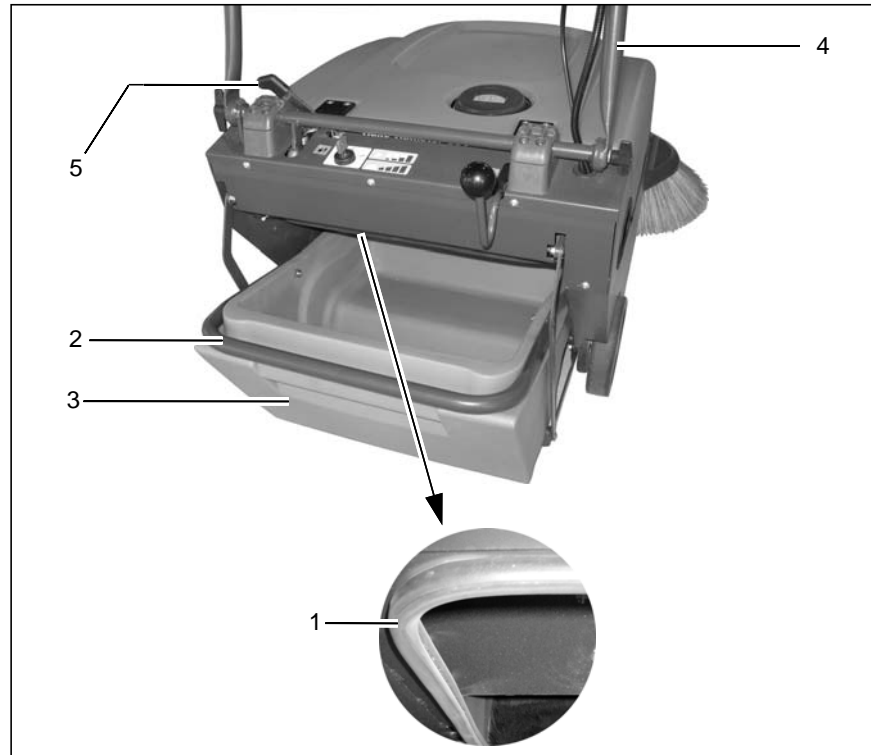
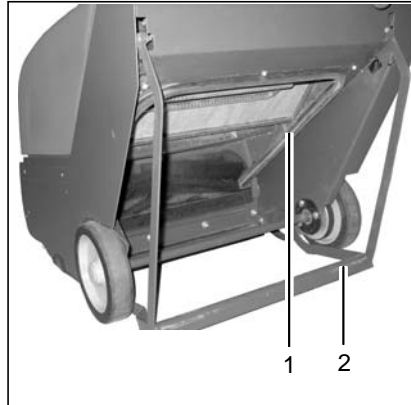

Fig. 24
Fig. 25
1. Switch the machine off and move the lever (Fig. 24/5) for locking the dirt hopper to the right (looking in drive direction) and, at the same time, pivot the handlebar (Fig. 24/4) forwards. The frame (Fig. 25/2) of the dirt hopper is lowered.
The engine must be at a standstill before the dirt hopper (Fig. 24/3) is removed. Risk of injury through swirling waste and dust!
2. Hold the dirt hopper (Fig. 24/3) by the handle (Fig. 24/2) and pull it to the rear and out of the machine
Check the fill level of the dirt hopper (Fig. 24/3) regularly and empty it regularly and as necessary.
1. Insert the dirt hopper (Fig. 24/3) back in the machine from the rear until they perceptibly engage in the frame (Fig. 25/2).
2. Pivot the handlebar (Fig. 24/4) towards the rear until the lever (Fig. 24/5) for locking the dirt hopper audibly engages.
Check the dirt hopper seals (Fig. 25/1) for wear on a weekly basis and change the seals as necessary.
2. Pull the seals (Fig. 25/1) from the edges.
3. Press new seals (Fig. 25/1) on the edges.
Clean the panel air filter (Fig. 24/5) in the dust vacuum regularly and as necessary using the shaking device:
1. When the engine is switched off, pull/push the lever (Fig. 24/9) of the shaking device quickly, several times.
1. Unlock the hood (Fig. 24/7) using a square wrench and open the hood (Fig. 24/7).
Ensure the engine has stopped before opening the hood (Fig. 24/7). Risk of injury through belt drive and rotating fan (Fig. 24/3)!
2. Release the top filter cover locks: Unscrew the knurled screws (Fig. 24/1) from the threaded pins (Fig. 24/4).
3. Release the bottom filter cover locks: Pivot the hinged locks (Fig. 24/6) outwards.
4. Remove the filter cover (Fig. 24/8).
5. Remove the panel air filter (Fig. 24/5).
1. Drop the panel air filter (Fig. 24/5) a few times from a small height onto a level, solid surface. Be careful not to damage the filter ribs!
The ground must not have any surface irregularities. Do not drop the panel air filter (Fig. 24/5) onto the ground at a slant.
Never install panel air filters (Fig. 24/5) which have damaged filter ribs!
If the panel air filter (Fig. 24/5) is removed, check the self-adhesive sealing strips (Fig. 24/2) for signs of damage. Damaged sealing strips (Fig. 24/2) must be replaced:
1. Pull off the damaged sealing strips (Fig. 24/2).
2. Clean any residual adhesive from the surfaces on which the sealing strips (Fig. 24/2) must be adhered.
3. Adhere the new sealing strips (Fig. 24/2).
1. Insert the thoroughly cleaned or new panel air filter (Fig. 24/5) from the correct side in the filter support frame.
Pay attention to the labeling on the side of the panel air filter (Fig. 24/5)!
2. Replace the filter cover (Fig. 24/8).
3. Close the bottom filter cover locks: Pivot the hinged locks (Fig. 24/6) over the edge of the filter cover (Fig. 24/8).
4. Close the top filter cover locks: Screw the knurled screws (Fig. 24/1) on the threaded pins (Fig. 24/4).
5. Close the hood (Fig. 24/7) so that it audibly locks.